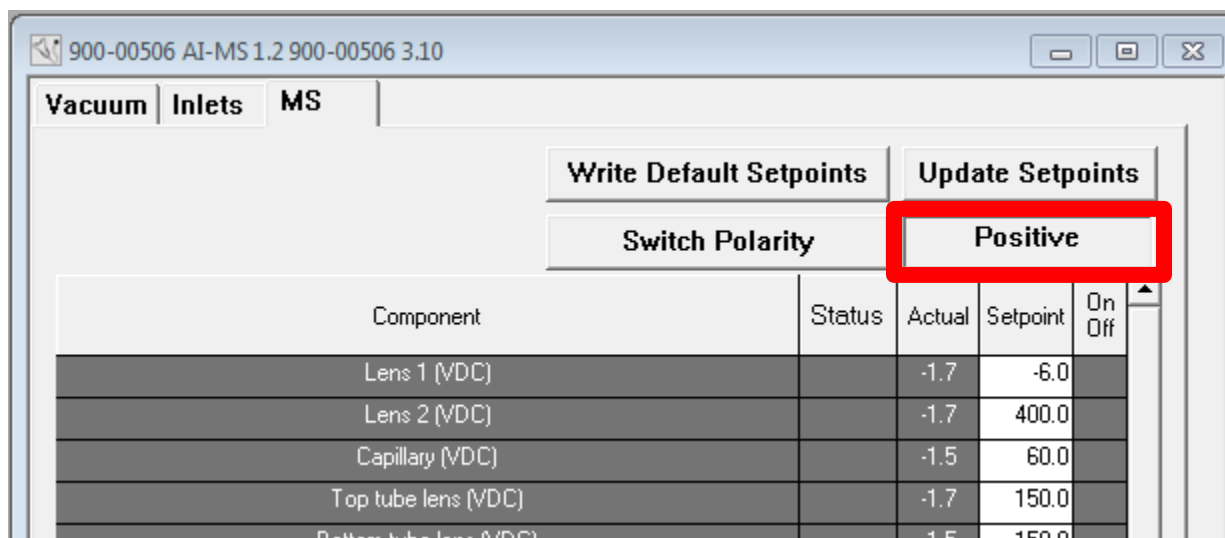

Figure 1.10 – Polarity switching interface
The instrument status box will appear (Figure 1.10). Under the “MS” tab, there will be 4 toggle buttons at the top right corner. One will read “Positive” (or “Negative” depending on the most current instrumental settings). This is the current ionization polarity of the instrument. The current ionization polarity can also be determined by looking at the instrument status bar at the bottom of the main program window.
2. Click the toggle button that reads “Positive.” The button should change and now read “Negative.” (Figure 1.10). Confirm the ionization polarity has changed by referencing the instrument status bar at the bottom of the main program window. To return to positive mode, simply repeat the procedure above.